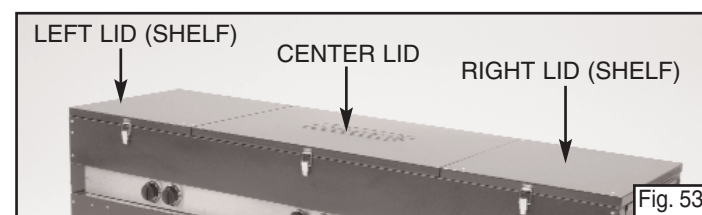

Fig. 53
- Be sure to replace all three lids after use. (Fig. 53)